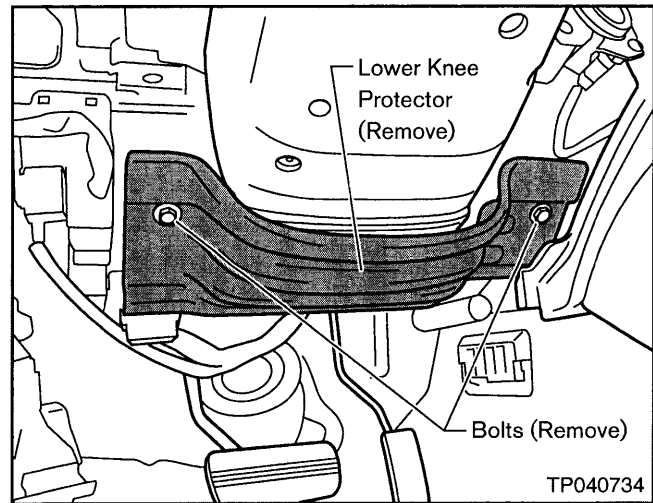

Figure 14
2. Remove two bolts and remove the Lower Knee Protector (see Figure 14).